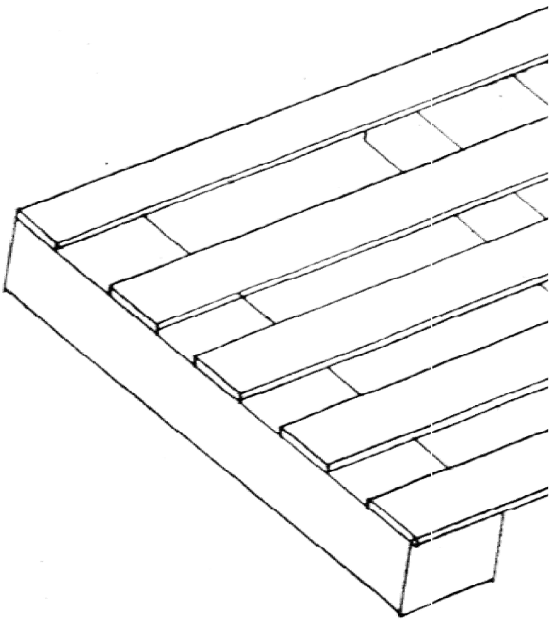

Fig. 24 WOODEN PLATFORM
- 2) The boxes can be stacked one above the other up to a maximum of FOUR Nos. with a wooden platform as shown in Fig. 24 (WOODEN PLATFORM). We do not recommend usage of Tarpaulin for the floor.